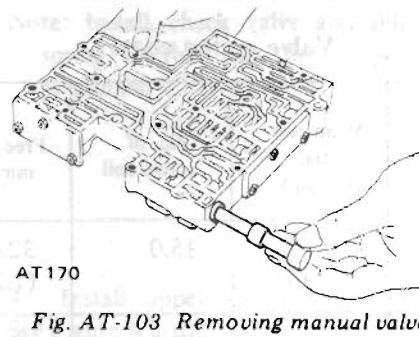

Fig. AT-103 Removing manual valve
3. Pull out manual valve as shown in Figure AT-103.